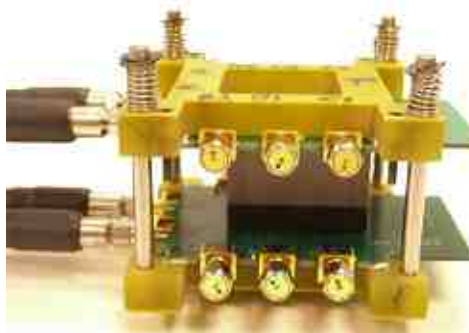
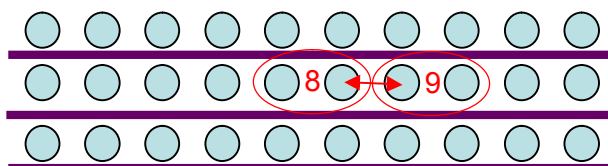
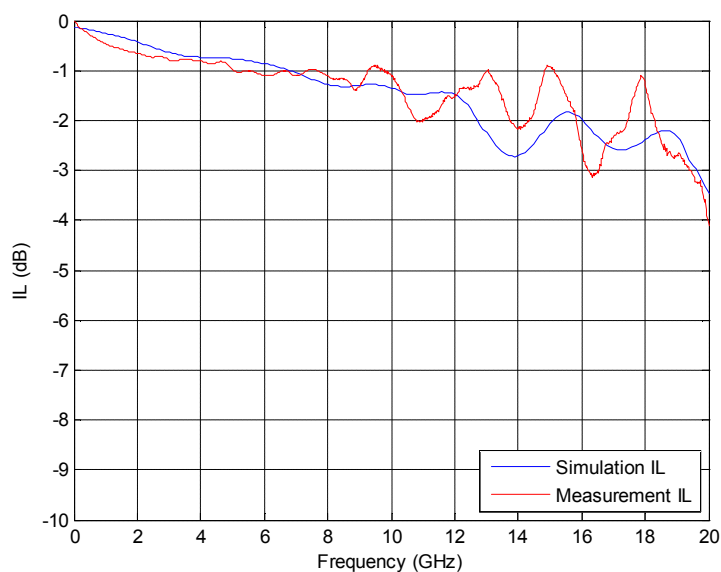

Figure 4-5 Characterization board
Figure 4-6 Illustration of the victim and nearest neighbor pairs
Figure 4-7 Differential insertion loss
To examine the behavior of the IT5 connector by itself, 62mil characterization boards (see Figure 4-5) were measured with their 1.6" lead-in traces de-embedded. Center pair, 8, will always be used as a cross talk victim throughout this section. (See Figure 4-6)
Figures 4-7 to 4-10 show the measured vs. simulated differential insertion loss (IL), return loss (RL), near-end crosstalk (NEXT), and far-end crosstalk (FEXT) between two nearest neighbors in an IT5-35mm connector (Figure 4-6). Data at other stack heights are detailed in Section 4.4.